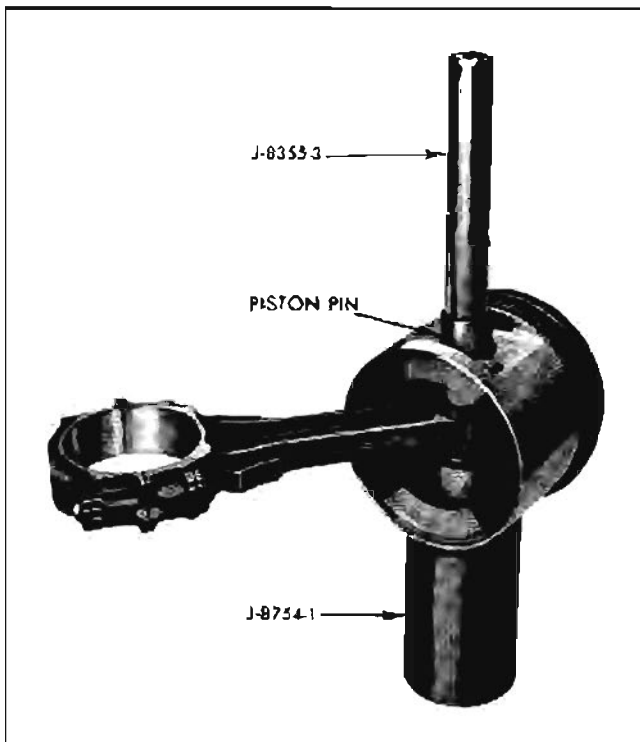

Fig. 6-119 Installing Piston Pin
1. Place pilot J-8754-2 and spring in cup J-8754-1 (Fig. 6-119).
4. Place driver J-8355-3 in piston pin and press pin into piston and connecting rod (Fig. 6-119) until piston pin bottoms against tool J-8754-2.